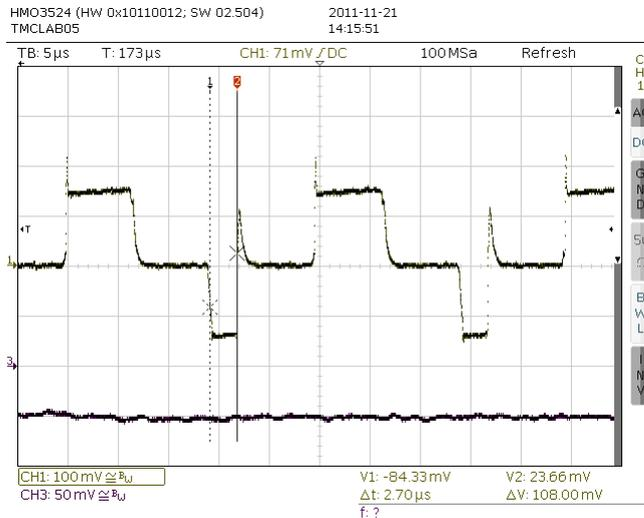

Figure 2.4 Measure the duration of the fast decay state (2.7µs): CH1: sense resistor voltage, CH3: coil current
1. Stop the motor at a position, where one coil current has a medium value, e.g. at a fullstep position. Attach the oscilloscope probe and measure sense resistor voltage to GND. Take a single shot of one or a few chopper cycles as shown in Figure 2.4 (showing a chopper operating at 40kHz).